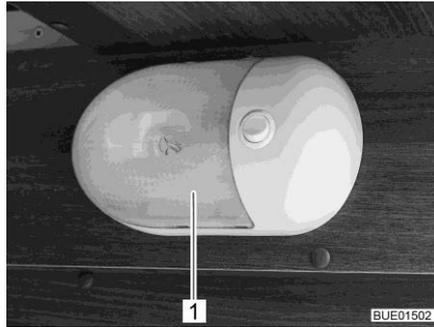

Fig. 315 Surface mounted light
- Carefully push the transparent cover (Fig. 315,1) together from both sides, pull it lightly from the switch and pull it off forwards.